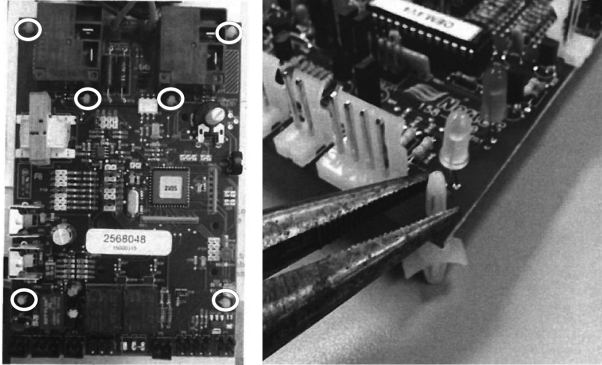

Fig. 3.
2. Remove the PCB. Standoffs are released by pinching the sides with needle nose pliers, as shown in Fig. 3.